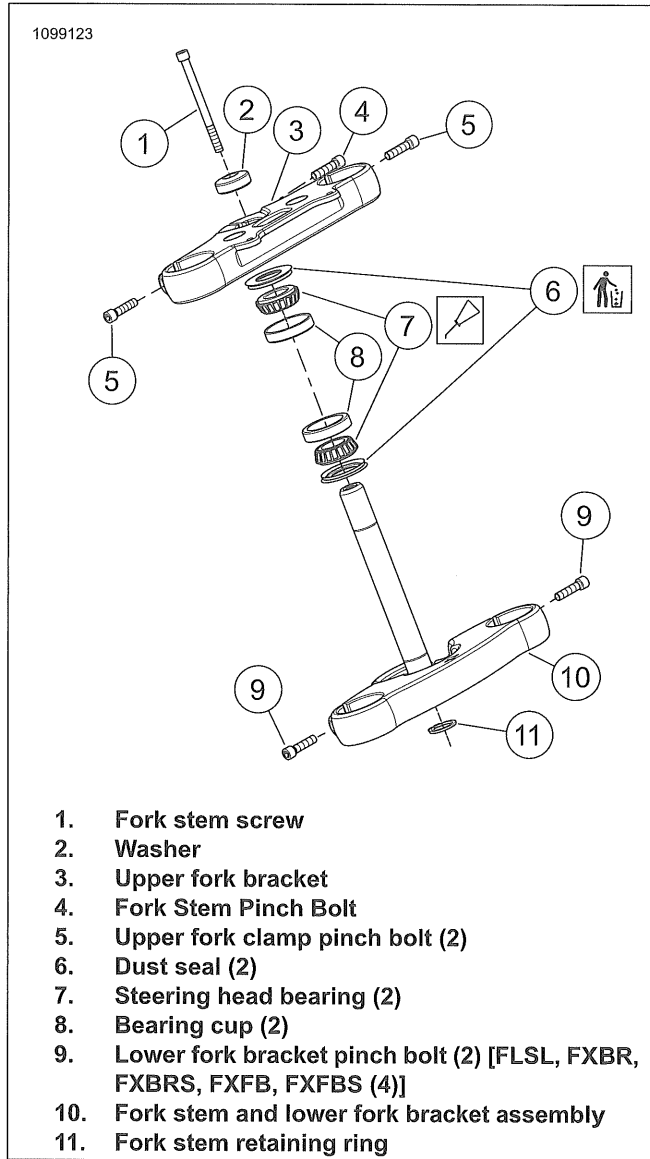

Figure 3-80. Fork Clamp Components (Typical)
1. See Figure 3-80. Remove upper fork bracket assembly.
- a. Loosen fork stem pinch bolt (4).
- b. Remove fork stem screw (1) and washer (2).
- c. Remove upper fork bracket (3).
1. See Figure 3-80. Install front fork stem and lower fork bracket assembly.
- a. Install **new** dust seal (6) over fork stem and lower fork bracket assembly (10).
- b. Apply SPECIAL PURPOSE GREASE (99857-97A) to lower steering head bearing (7).
- f. Install upper steering head bearing and **new** dust seal (6).
2. Install upper fork bracket (3).
1. See Figure 3-80. Install upper fork bracket (3) assembly.
- a. Install washer (2) and fork stem screw (1). Tighten. Torque: 160–168 in-lbs (18.1–19 N·m) *Fork stem screw, first torque*